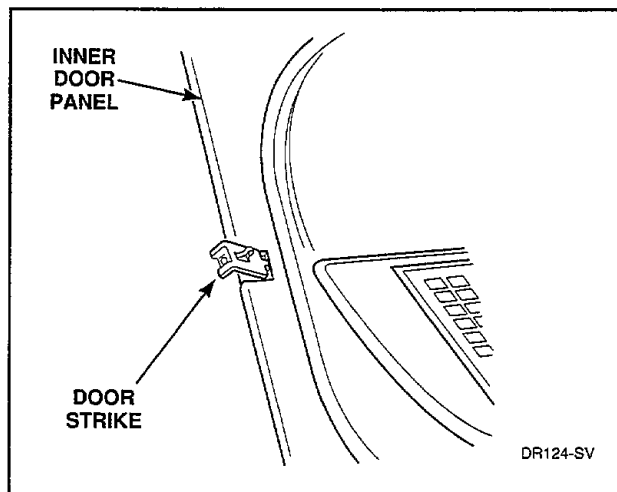

Figure 12
- Remove door strike from door liner, *Figure 12*, and reinstall it on opposite side.